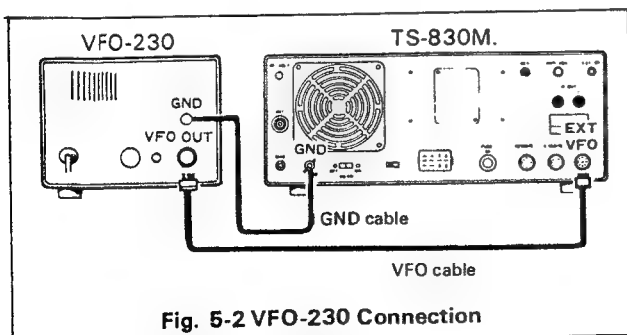

Fig. 5-2 VFO-230 Connection
■ VFO-230 CONNECTION (Fig. 5-2)
Connect the VFO-230 as shown in Fig. 5-2.